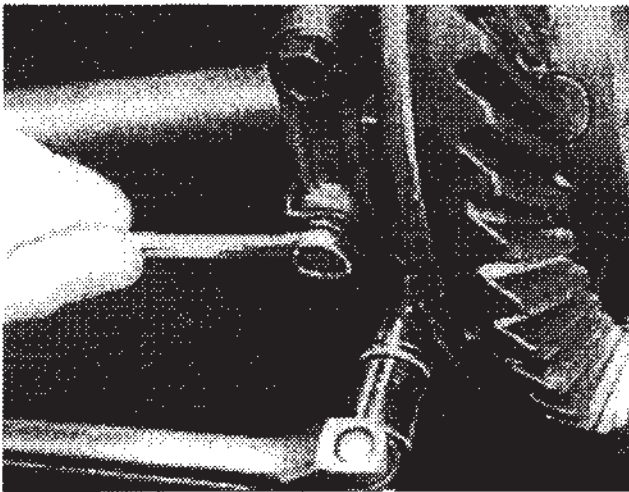

Figure 3
4. Remove the adjuster locks. (See **Figure 3**). Be sure that each adjuster is marked at the lock with the correct number of punch marks for each side. The adjusters are not interchangeable after they are marked for position! (In general, the adjuster locks themselves are interchangeable.)
5. Remove the bearing caps (Figure 3).